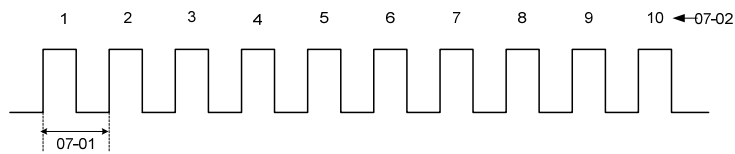

Figure 4.3.56 Automatic restart operation
(2) Restart time of automatic reset (07-01)
- . Refer to Figure 4.3.56 for setting automatic restart interval.